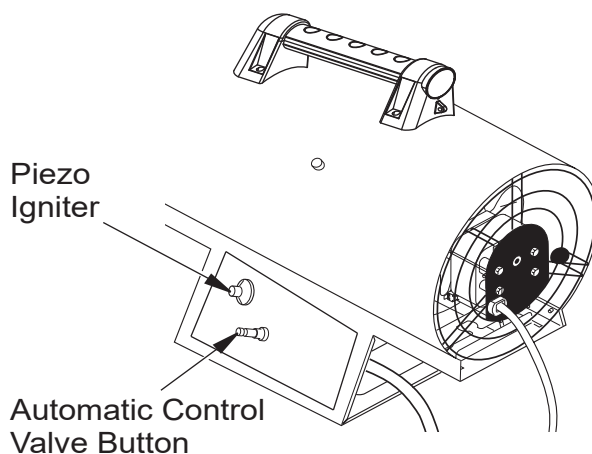

Figure 5 - Automatic Control Valve Button and Piezo Ignitor
6. Push in and hold the automatic control valve button (see Figure 5). Push Piezo igniter button (see Figure 5). Keep pushing the igniter button until burner lights. When burner lights, keep the automatic control valve button pushed in. Release button after 30 seconds. This activates the automatic control system.